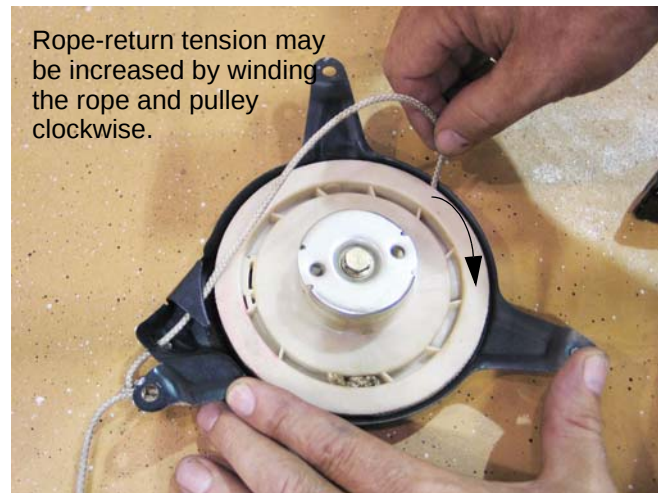

Figure 6.25
- 6.25. If starter rope tension needs to be adjusted, there is room between the recoil housing and the pulley to wind-on more tension. See Figure 6.25.